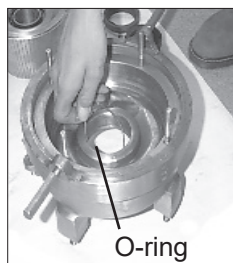

Figure 18
12. Remove the O-ring from inside the body. Use the O-ring removal tool (part no. AD0096001) if necessary. (See Figure 18.)